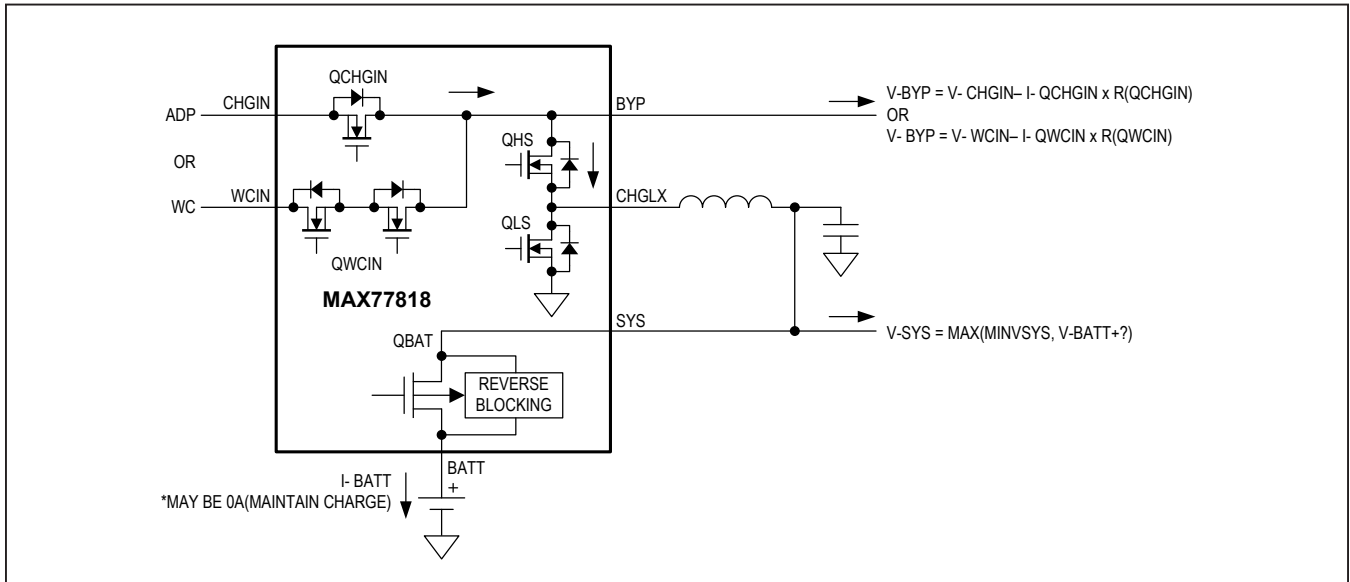

Figure 14. Charge Buck
**Charge Buck,  $MODE = 0x0D$ :** Adapter or wireless charger are detected, within the input voltage operating range ( $QCHGIN = on$  or  $QWCIN = on$ ). Battery is connected in charge mode ( $QBAT = on$ ), and charger is operating in buck mode. See Figure 14.